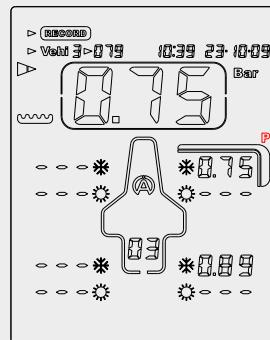

Figure 6
- 8) Press the central button  to record the measured temperature and prepare the Tyrecontrol on the next point of capture (Figure 6).